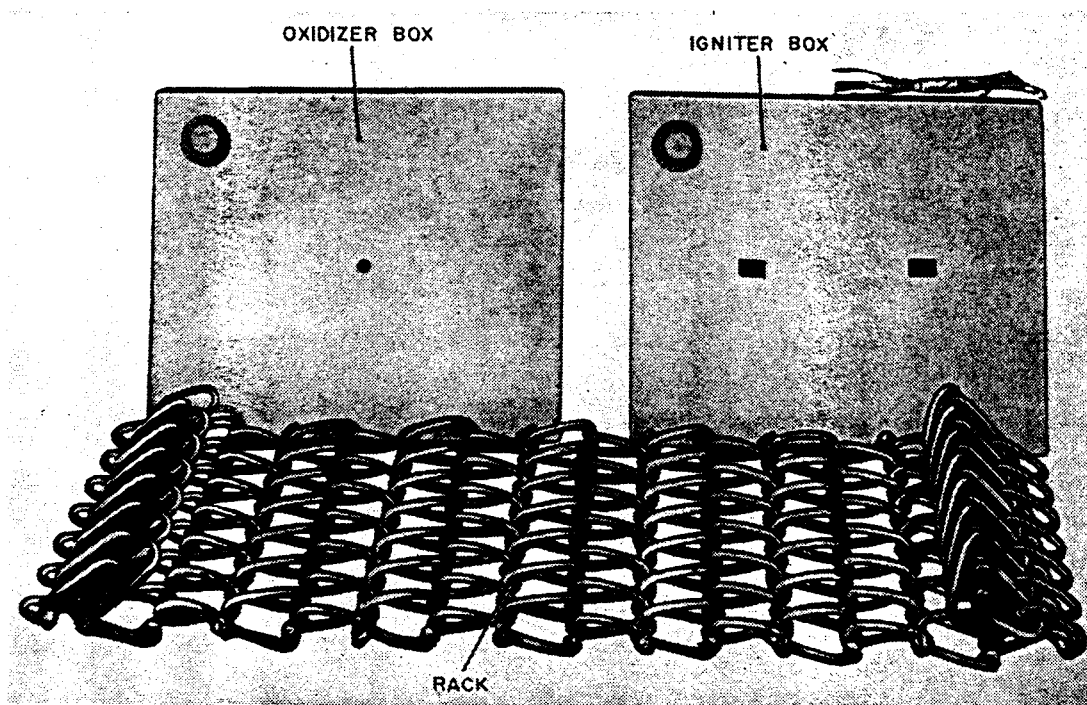

Figure 36. Oxidizer box, igniter box, and rack.
b. Description. The file destroyer incendiary consists of 44 oxidizer boxes, 4 igniter boxes, and 4 racks (fig. 36). The oxidizer boxes furnish oxygen to permit papers to be burned in a closed file drawer. The igniter boxes set fire to the papers and oxidizer boxes. The racks compress the papers and oxidizer boxes while the papers are burning. Forty-four pounds of paper can be destroyed with this incendiary. Pertinent data on the incendiary are summarized in table IV.